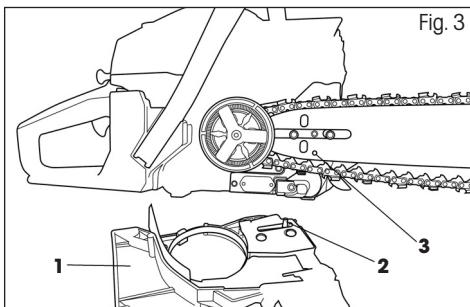
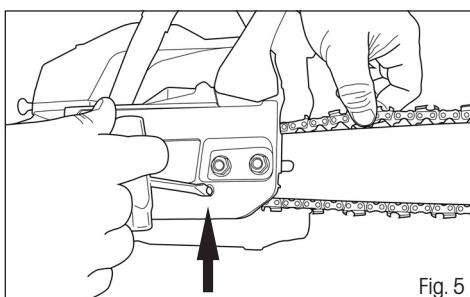

Fig. 3
Fig. 5
- ✿ Loosen two nuts and take off the sprocket cover (Fig. 3, point 1).
⚠ ATTENTION! The chain tensioning pin (Fig. 3, point 2) must fit into the hole in the guide bar (Fig. 3, point 3). The position of this pin can be adjusted using the chain tensioning screw (Fig. 5)
- ✿ Tension the chain using the tensioning screw (Fig. 5) and then tighten the sprocket cover nuts using the included tubular wrench
- ❖ Use a screwdriver to turn the chain tensioning screw (Fig. 5). Turn the tensioning screw until the required tension is achieved (you should lift the chain in the middle of the guide bar in the horizontal position to a height of 3 to 4 mm).